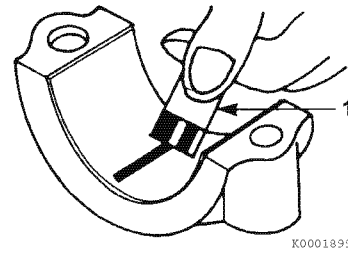

Figure 6-54
- 6- Compare the width of the flattened PLASTIGAGE to the graduation marks on the package (Figure 6-54, (1)). The mark that most closely matches the width of the flattened PLASTIGAGE will indicate the bearing oil clearance.